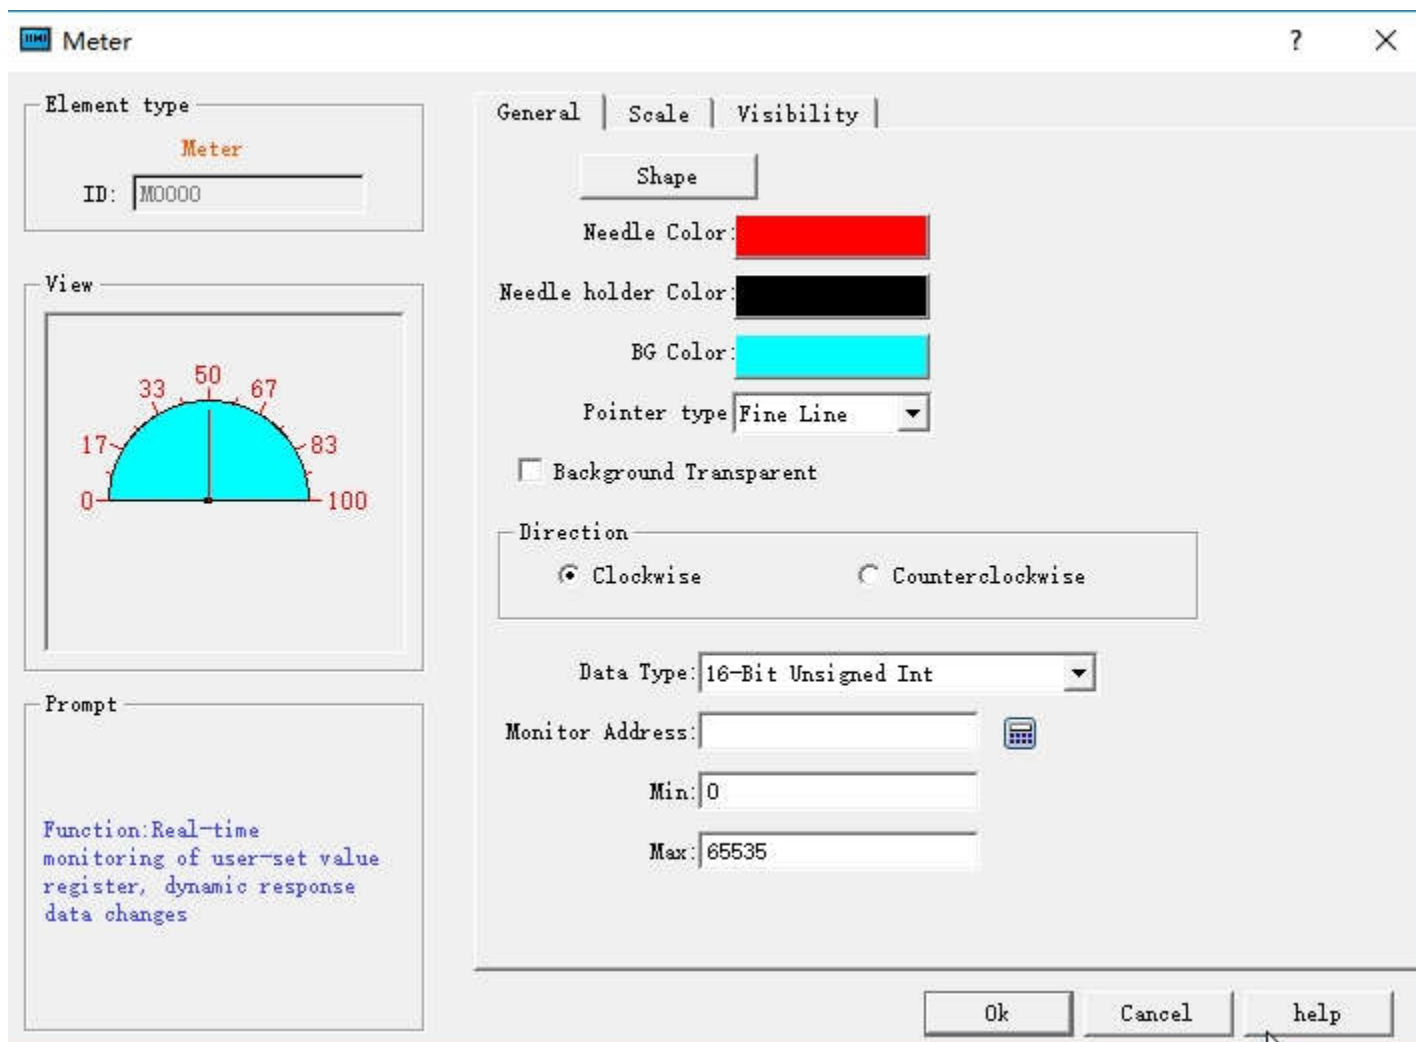

Figure 4-57 Meter dialog
1. Select the Meter control icon  in the toolbar; then the dialog box shown in Figure 4-57 appears: